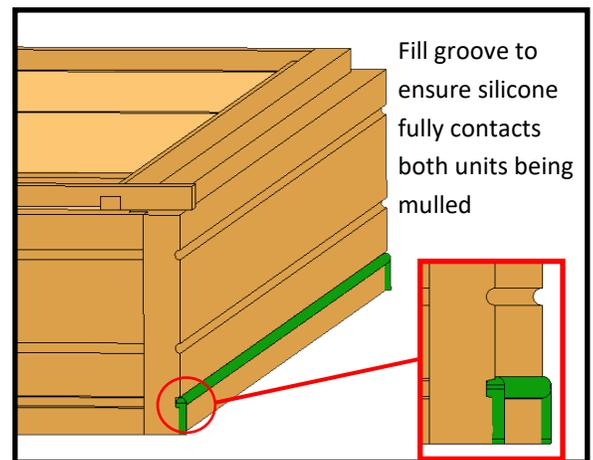

Figure 1
- A. Apply 3/16" silicone bead between mullled units, in the nail fin groove and on both edges going toward the exterior of the unit (figure 1).